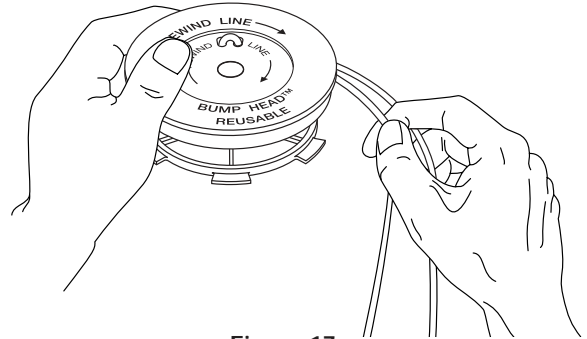

Figure 17
- Wind the lines in tight even layers onto the reel. See Figure 17. Wind the line in the direction indicated on the inner reel. Place your index finger between the two lines to stop the lines from overlapping. Do not overlap the ends of the line. Proceed to step 11.